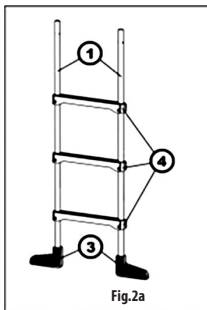

Fig.2a
Press all plastic treads (4) on the two pairs of stiles (**Fig. 2a**) taking care to maintain the same orientation of all treads. .